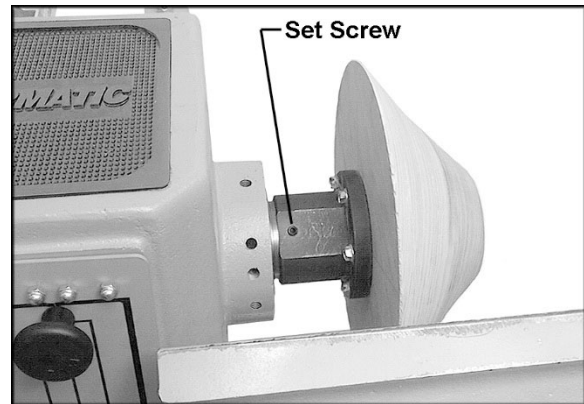

Figure 21
⚠WARNING If at any time you will be *reversing* spindle rotation, make sure the two set screws in the face plate are tight! One of these is shown in Figure 21. Failure to do this may cause the face plate to loosen from the headstock spindle.
5. To *remove* the face plate, loosen the two socket set screws (Figure 21). Engage the spindle lock button and turn the face plate counterclockwise with the face plate wrench, as shown in Figure 21.
⚠WARNING When turning with a face plate, make sure both set screws on the face plate are tight (see Figure 21) before reversing the spindle. Failure to comply may cause the face plate to spin loose from the spindle.